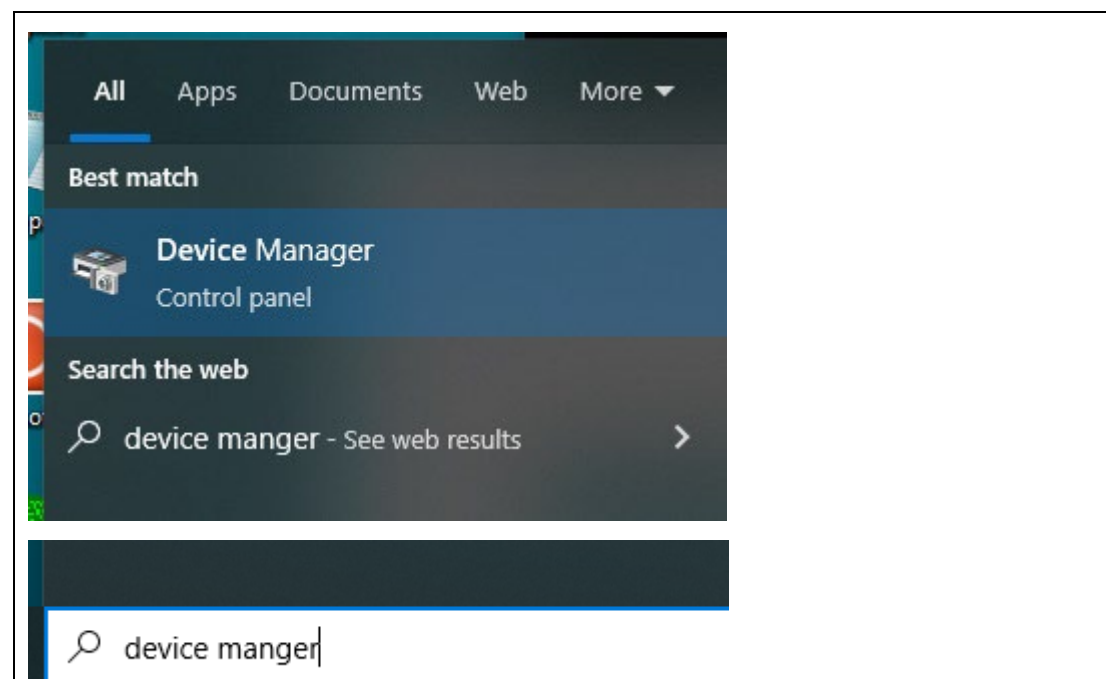

Figure-1.12
12. Turn on Windows' device manager with Windows search box (Figure-1.12).